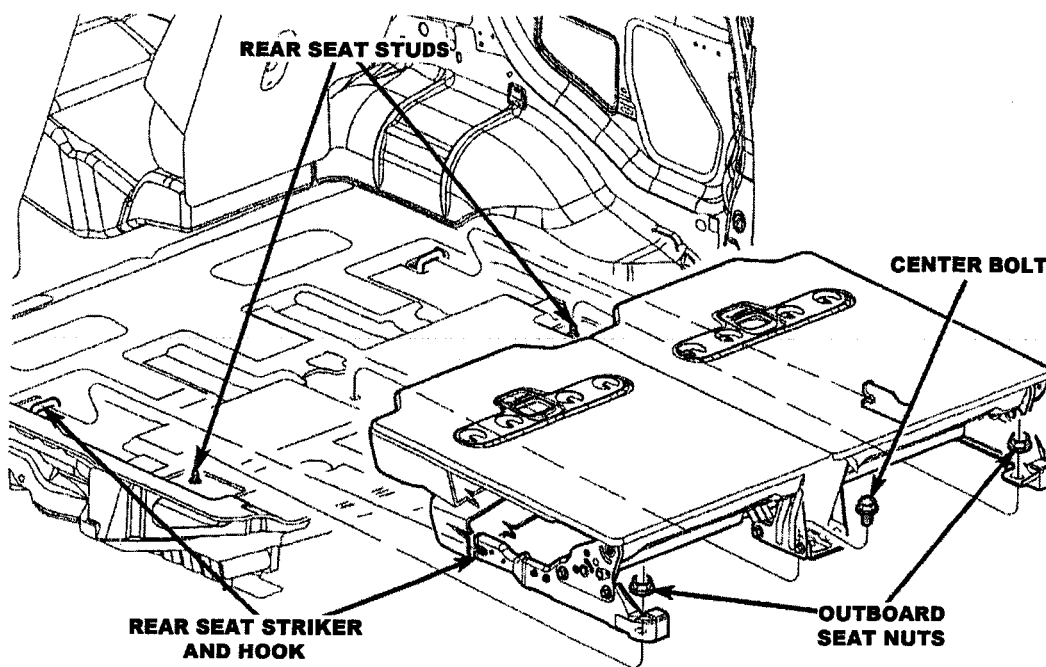
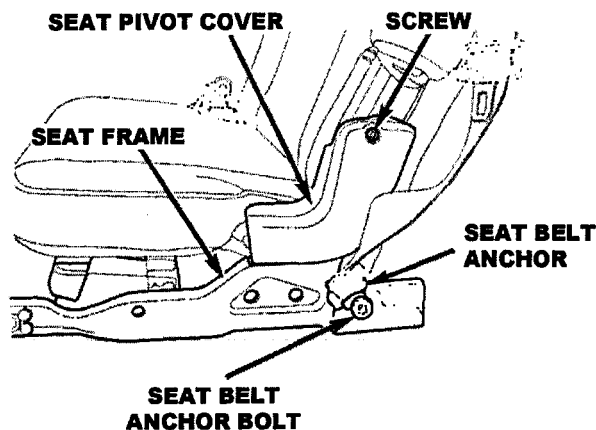

Figure 4
Figure 5 – LEFT THIRD ROW SEAT
6. Remove the center bolt between the seat bottom frame. (Figure 4)
7. Remove the two outer nuts from the seat bottom frame. (Figure 4)
8. Lift the seat assembly up off the rear studs and release the front hooks from the strikers. (Figure 4)
10. Remove the bolt holding the seat belt lower anchor to the outboard rear corner of the third row seat support bracket. (Figure 5)
14. Remove the screw for the seat pivot trim cover and remove cover (Figure 5).
42. Install the bolt holding the seat belt lower anchor (Figure 4) to the outboard rear corner of the third row seat support bracket. Tighten to 32 ft-lbs (43 N·m) (Figure 5).
- 46. Latch the front hooks to the striker and lower the rear seat assembly onto the studs and locator pins (Figure 4).
- 47. Install the center bolt and tighten to 37 ft-lbs (50 N·m) (Figure 4).
- 48. Install the outer nuts and tighten to 37 ft-lbs (50 N·m). (Figure 4)